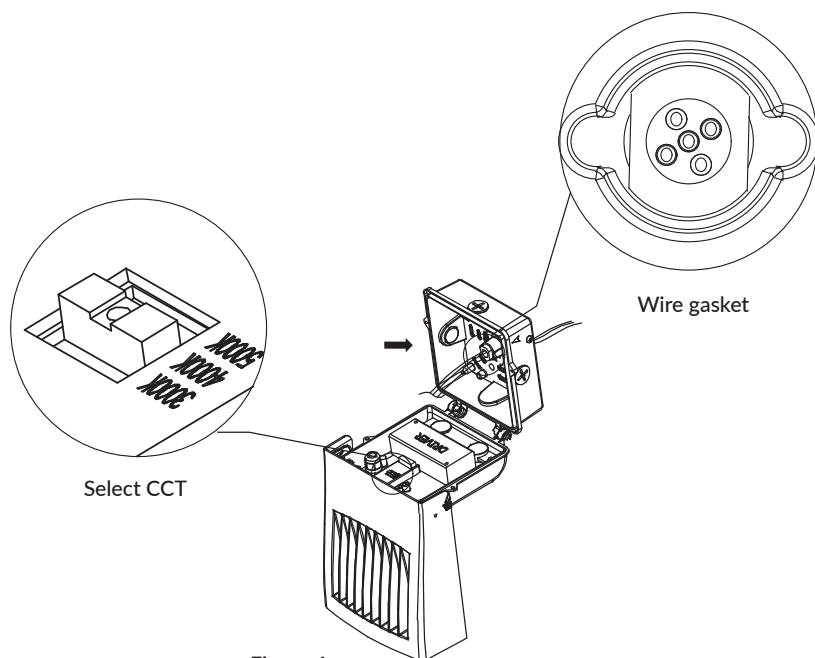

Figure 4
- Pull out the power supply wires (L black, N White), grounding wire (G Green), and dimming wires (purple and gray) (if needed), by breaking through the 5 holes wire gasket. (Figure 4)
- Select the desired CCT by using the sliding switch according to project needs. (Figure 4)